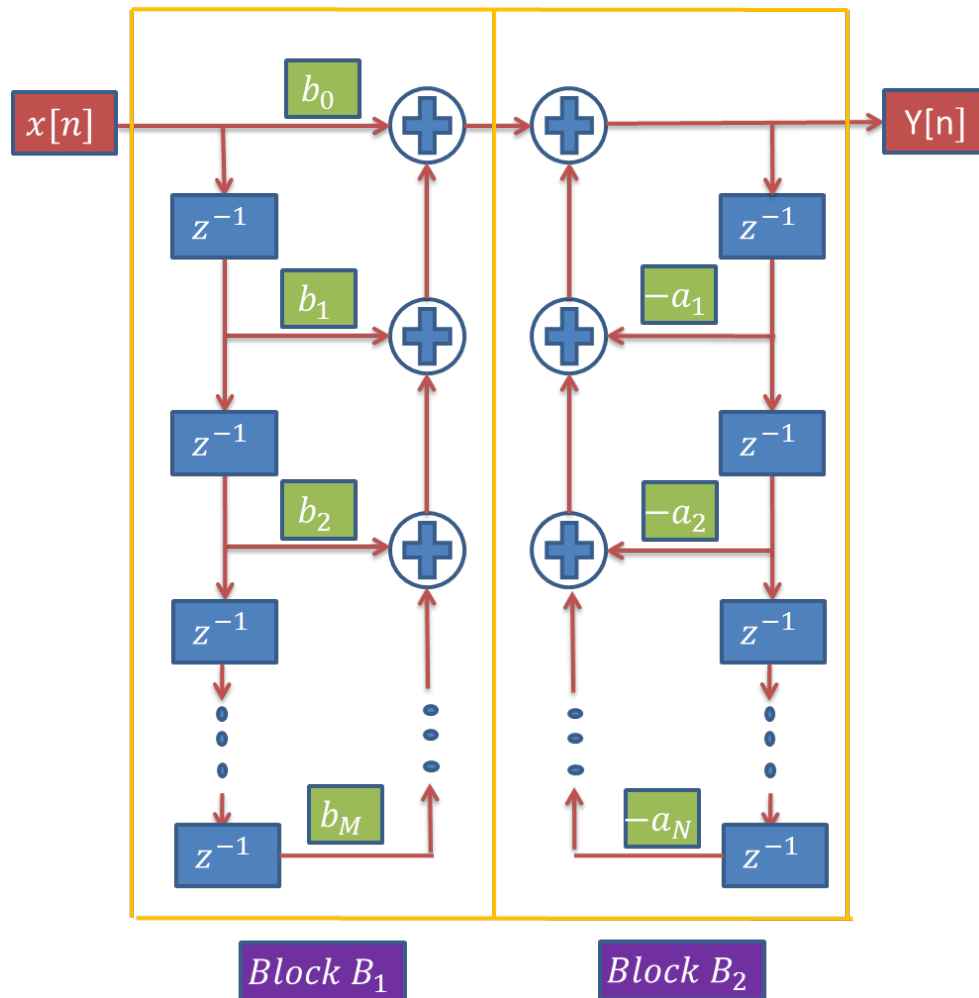

Figure 1: Block diagram for direct-form I structure for the IIR filter given by (2)
- If, while implementing direct form I structure, the processing (of multiplication and addition) is performed on the previous inputs first and then on the previous outputs to calculate the current output, then it can be depicted in block-diagram format as shown in Figure 1.